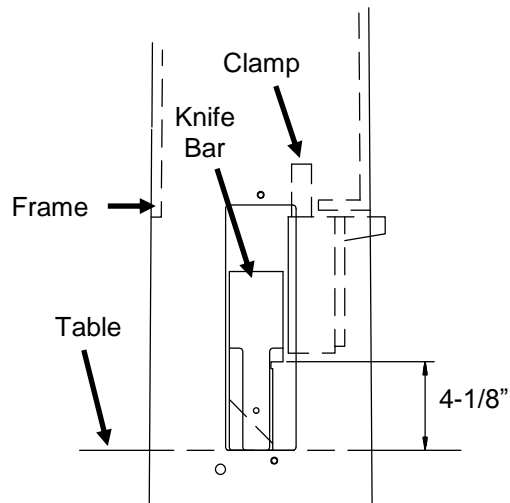

Figure 47
11. The cylinder shaft can be threaded into the clevis to adjust the position of the knife bar. When properly adjusted, the distance from the top of the knife bar recess to the table with the knife in the down position should measure 4-1/8" (103mm), (Figure 47).